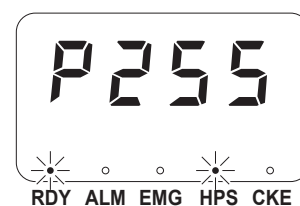

Fig. 7-134
- ① Click “Connect” and connect to the table-top type robot (IAI-made TTA-A4 series).
- ② Click “ORG ret”. After completion of origin return, the panel window display of the table-top type robot (IAI-made TTA-A4 series) is changed as shown in Fig. 7-134.